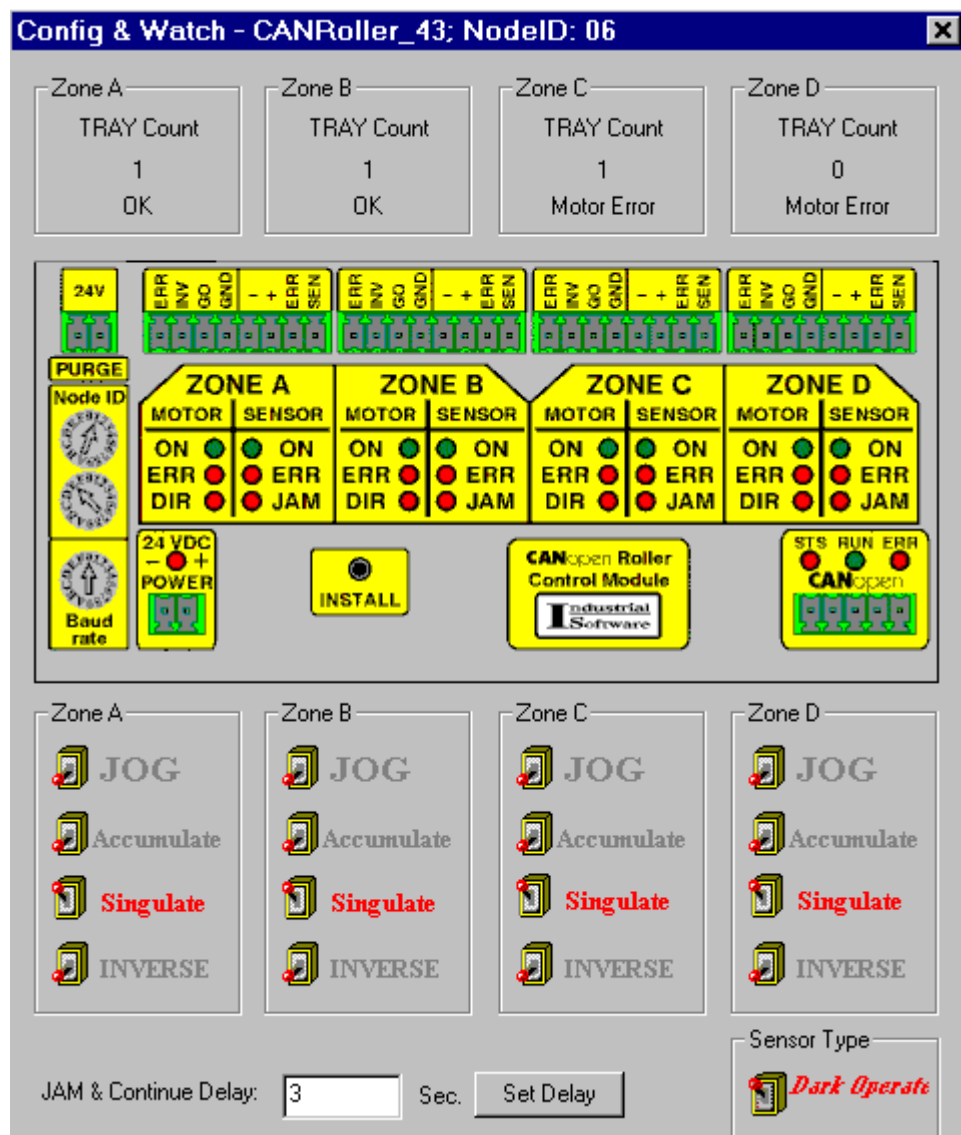

Fig. 7.11
- Click on **Config & Watch** item to open **Config & Watch** information box - Fig. 7.11. This box provides comprehensive information about the state of this module.